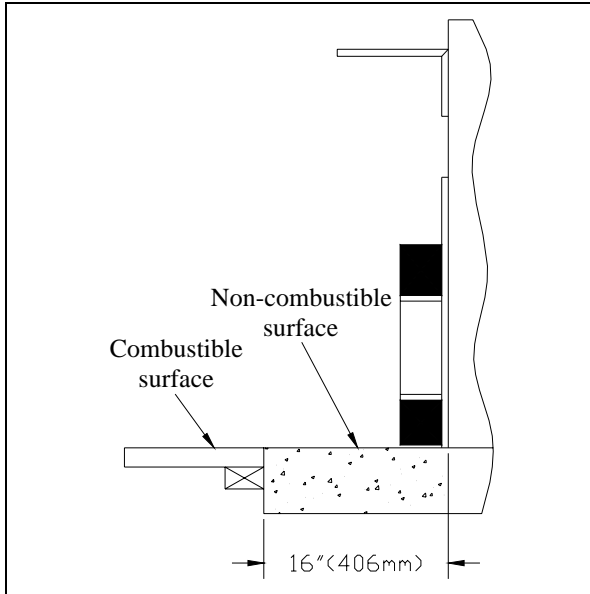
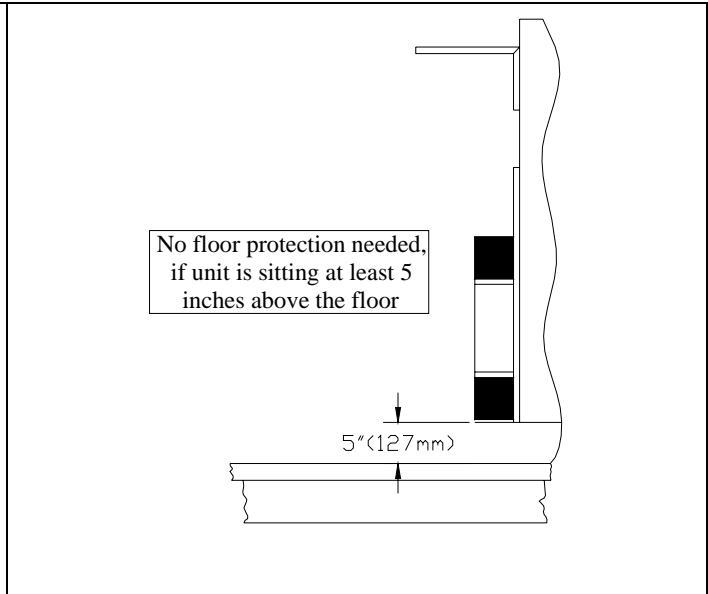

Figure 5
Figure 6
- 0" (figure 6) or 16" (figure 5)